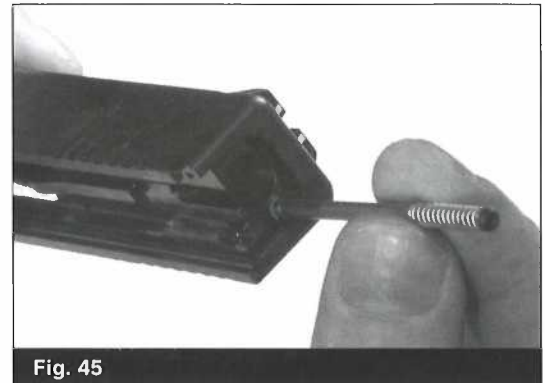

Fig. 45
- Insert the extractor depressor plunger (EDP) assembly into the slide. The metal rod end always goes in first to mate with the metal extractor. This leaves the polymer spring loaded bearing to mate with the polymer slide cover plate. (Fig. 45)